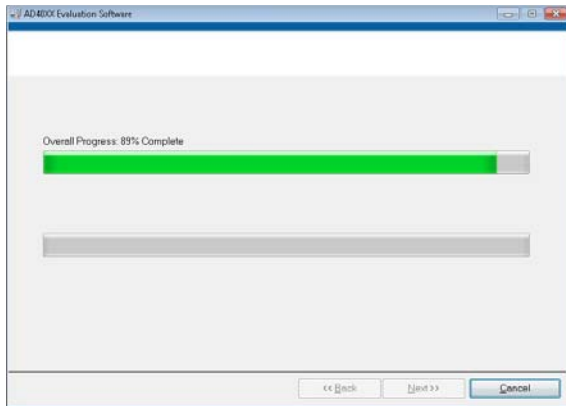

Figure 7. Overall Progress
- A pop up window opens and displays a bar showing the installation progress, as shown in Figure 7.